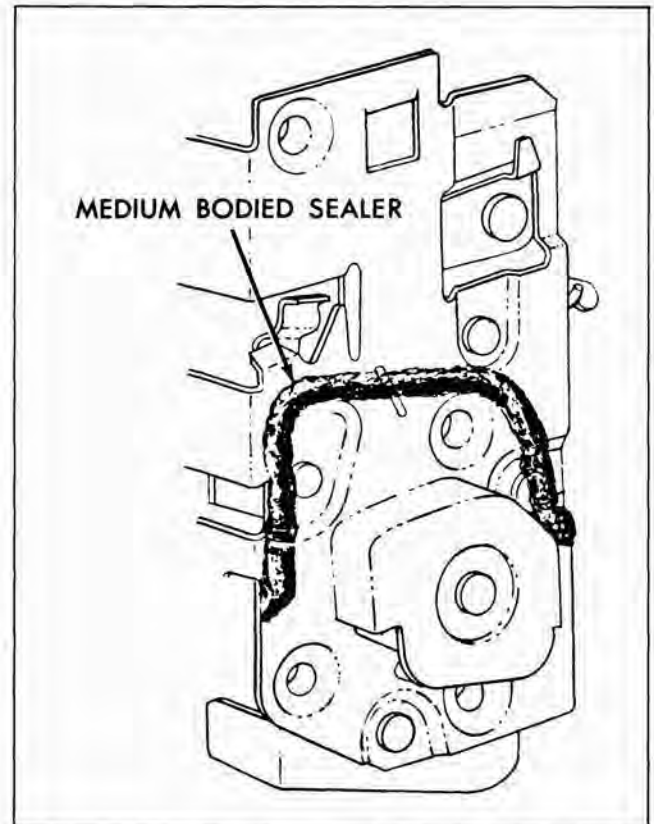

Fig. 3-24 Front Door Lock Sealing
5. To install, reverse removal procedure. Prior to installation of lock assembly on 11, 47 and 67 models, apply a ribbon of medium bodied sealer (approximately 1/4" in diameter) across face of lock' frame. Check unit for proper operation and, if necessary, adjust glass run channel for proper alignment prior to installation of inner panel water deflector (Fig. 3-24).